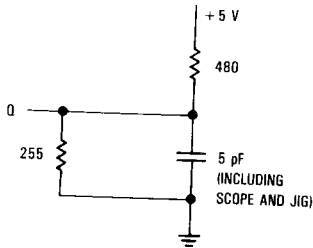

Figure 1B
5. Transition is measured ± 500 mV from steady-state voltage with load of Figure 1B.
3. Transition is measured ± 500 mV from steady-state voltage with load in Figure 1B.